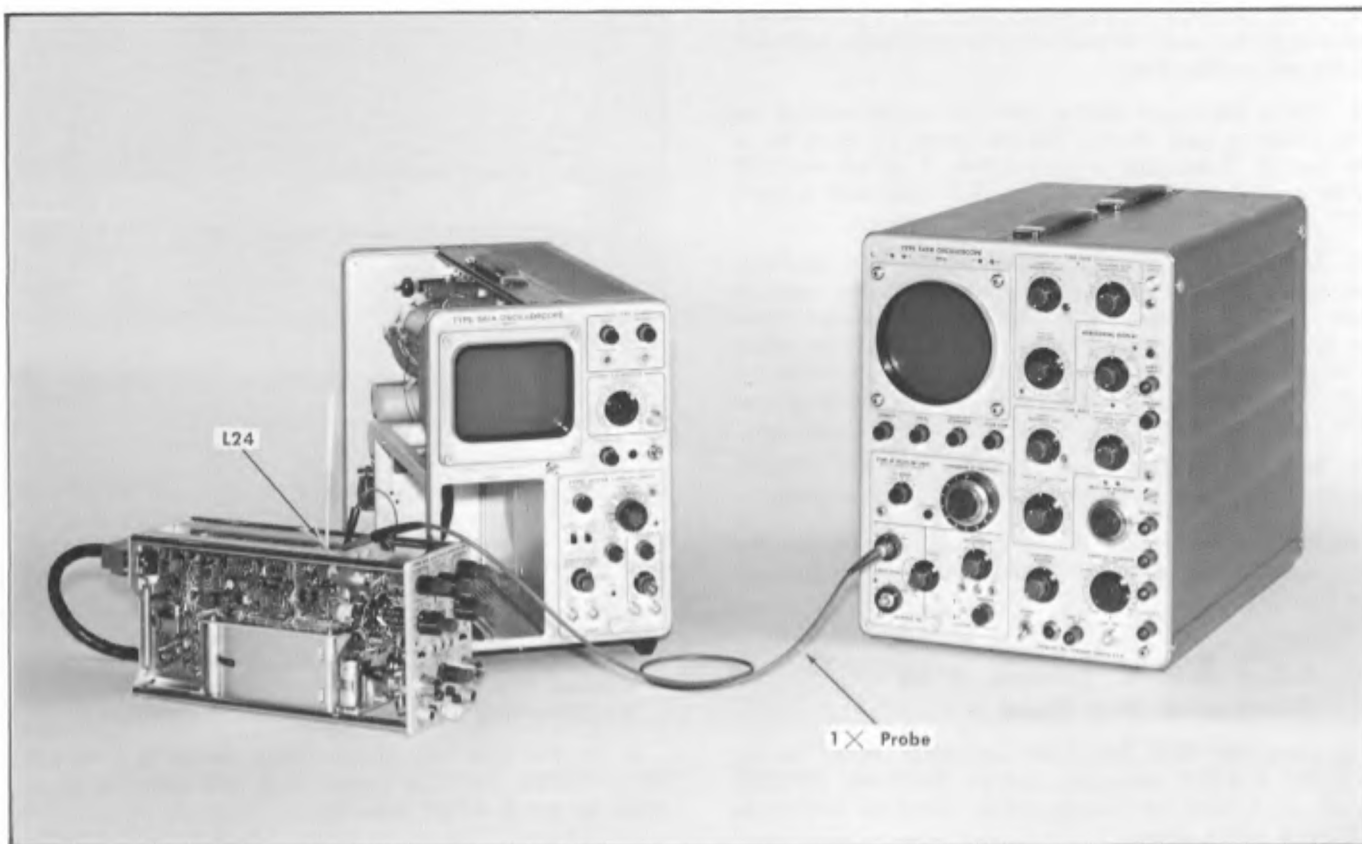

Fig. 8-25. Test setup for Step 21.
a. Make the connections and control settings as stated following Fig. 8-25. Insert the coil adjusting tool (item 22 of equipment required) into L24, and hold the 1 $\times$  Probe tip near L24, as shown in Fig. 8-25.